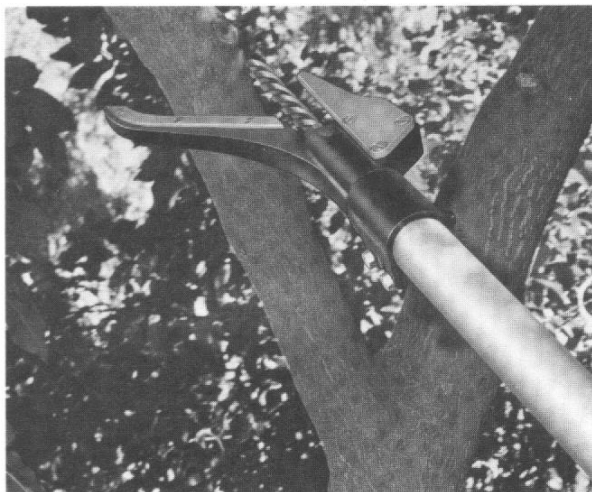

Figure 19. Downward Pre-Cut
3. Larger limbs on the left side of the trunk should always be "pre-cut" a foot or so away from the trunk using a downward cut (see Figure 19). This will relieve the crotch of the weight of the limb and prevent pinching of the ROTO-BIT by the falling limb. After the "pre-cut" has been made, make the precision cut (upward cut) with the ROTO-BIT beneath the limb and tight against the tree trunk.